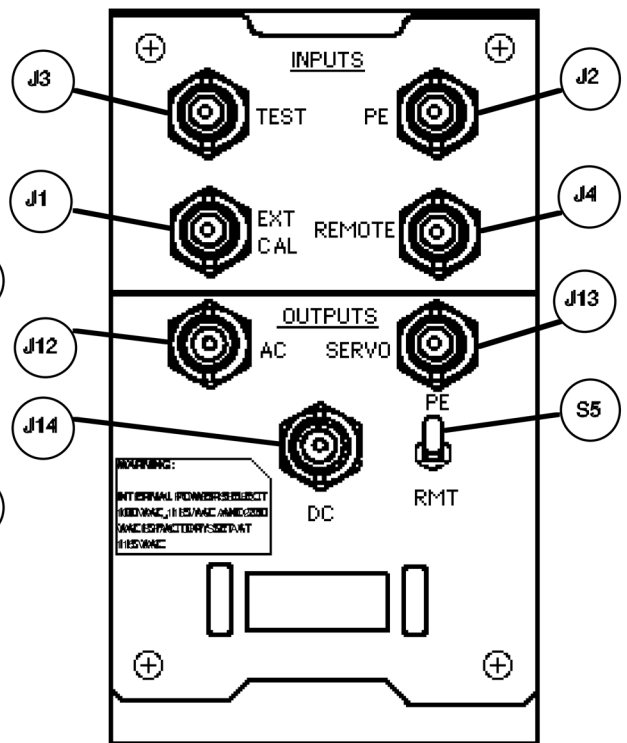

FIGURE 5-2: REAR PANEL CONTROLS
B. On the back panel (Figure 5-2) set the INPUT MODE switch (S5) to PE.